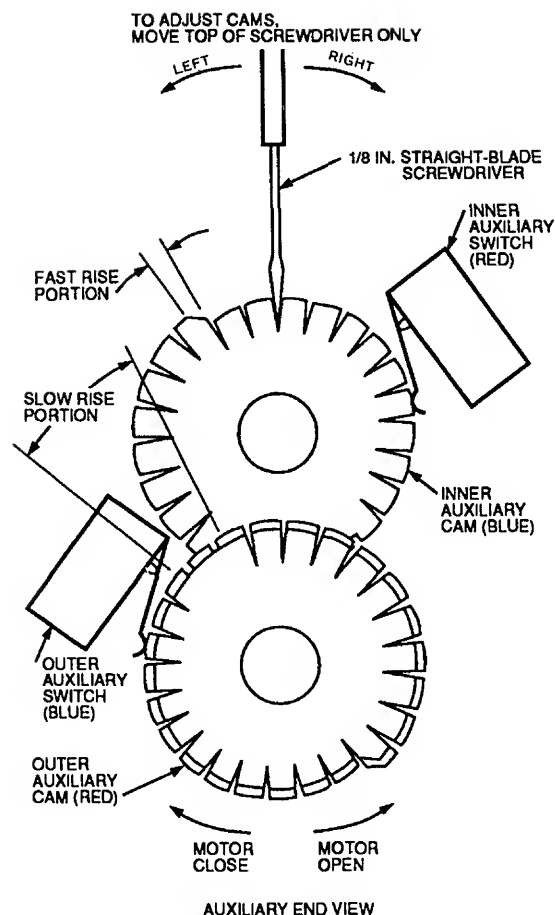

Fig. 29 — Auxiliary Switch Adjustment
4. Adjust auxiliary cam by inserting a 1/8-in. straight blade screwdriver into slot on cam and moving TOP of screwdriver to the right or left. See Fig. 29.